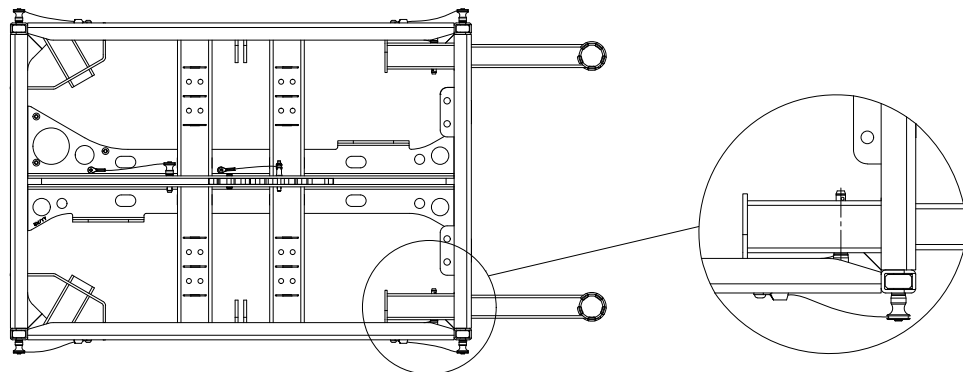

Figure 4.2.3 – Rear-mounting the VERA ORF900 outrigger on the VERA RF600
3. Always insert all quick-lock pins completely through all square tubes (see figure 4.2.3 right).